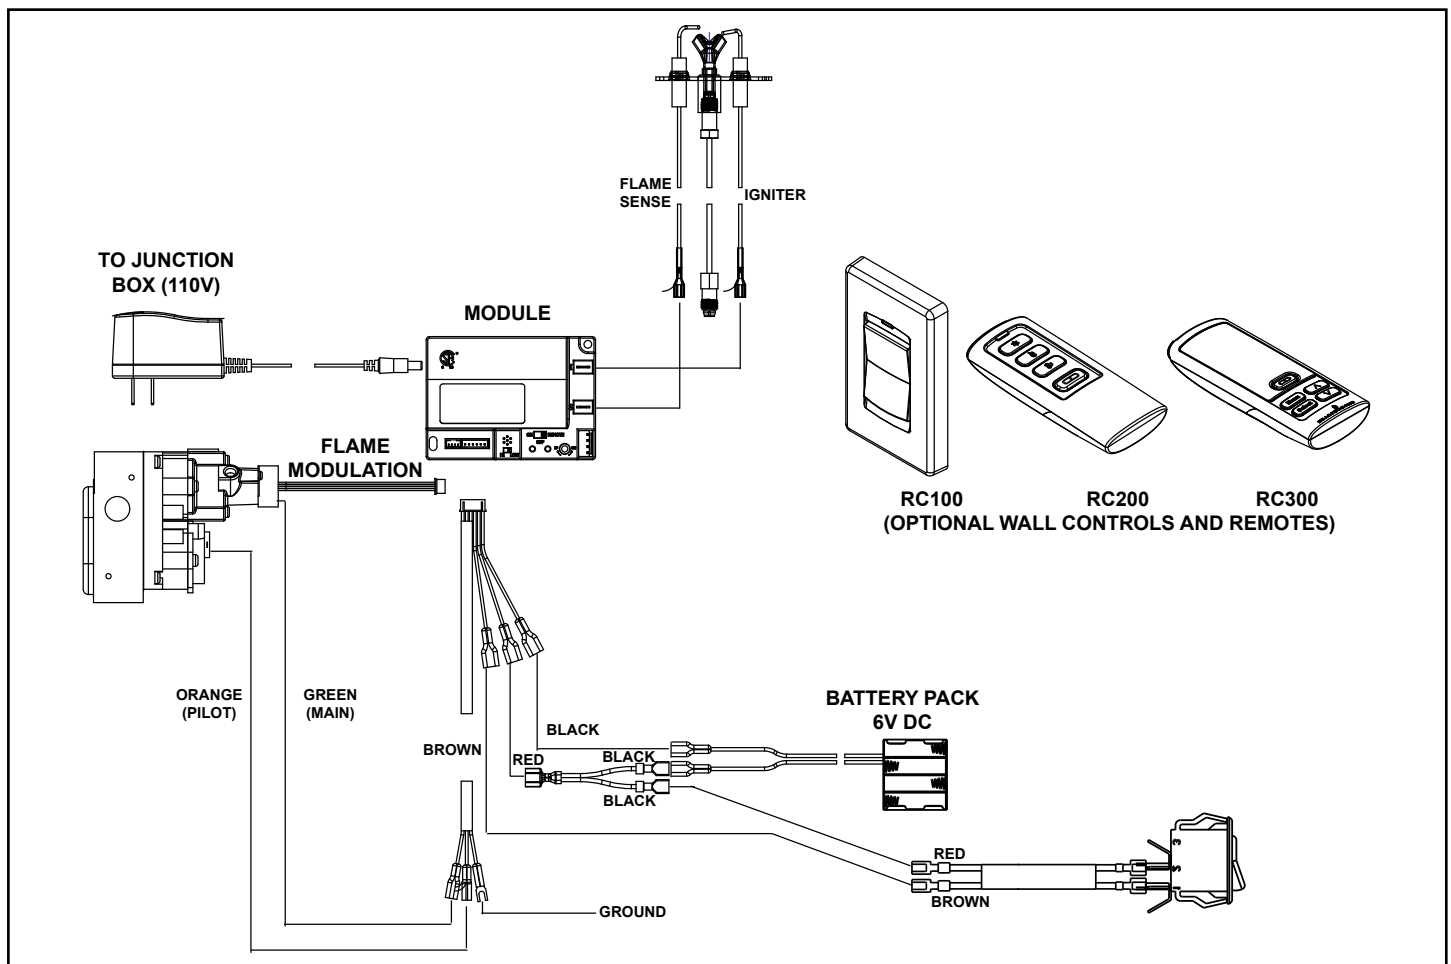

Figure 8.1 IPI Wiring Diagram
- Refer to Figure 8.1, IPI Wiring Diagram.